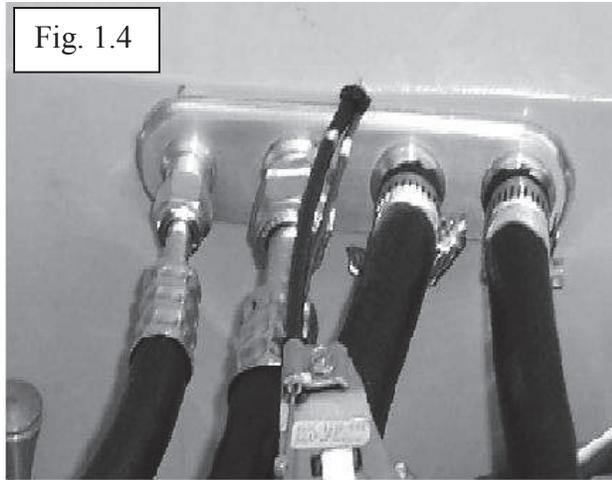

Fig. 1.4
- 15) If you are using a bulkhead fitting on the firewall mount the evaporator unit first then find an area for the bulkhead fitting on the firewall. Mark where the bulkhead fitting will mount then run the hoses to that point on the firewall. If the hoses are not kinked, and out of the way the bulkhead will be ok to mount. The bulkhead can be mounted at your discretion. We normally mount the bulkhead during step six. It is better to have all of the components in the vehicle before cutting holes into the firewall. Figure 1.4